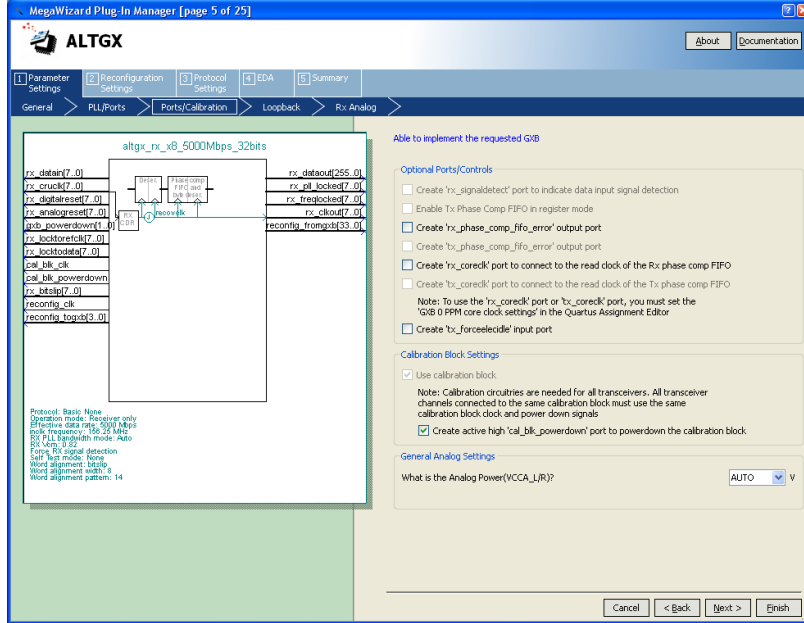
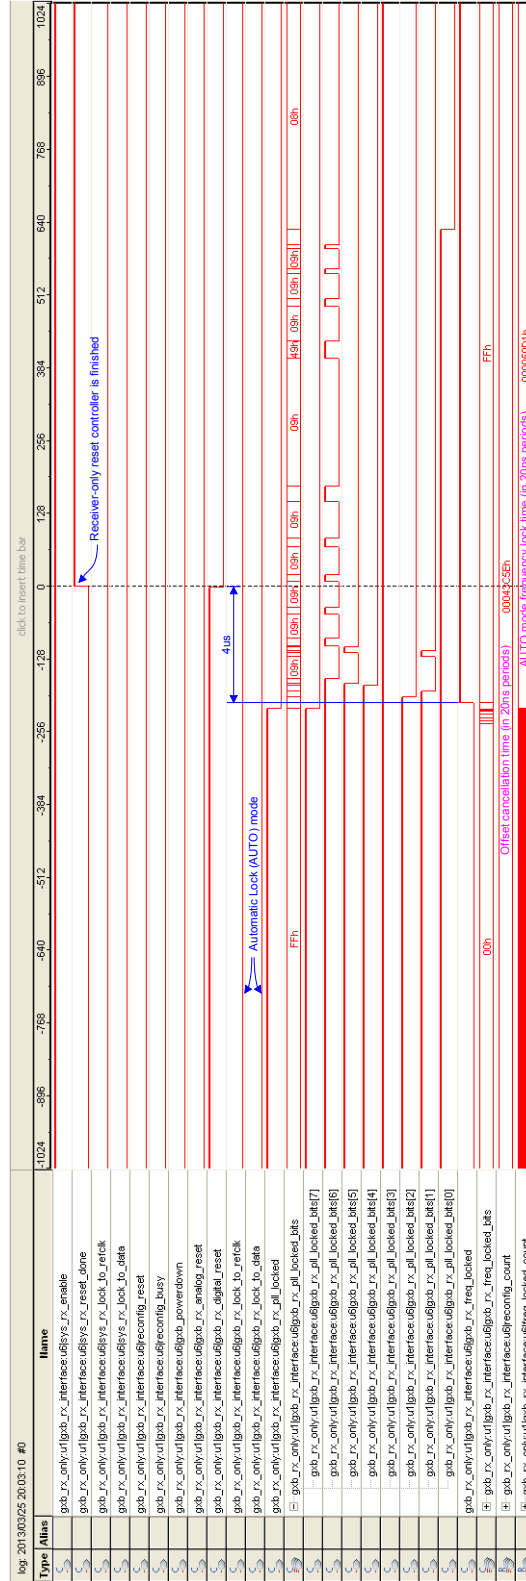

Figure 11: Receiver-only ALTGX page 5.
Figure 22: Altera Transceiver Receiver-only reset controller (AUTO mode) re-enable after power-on (end of reset sequence), with no input data transitions.
- Page 5 (see Figure 11)
Altera application note AN533: *Debugging Transceivers* indicates that PLL locked may toggle in lock-to-data mode (see p15 and 19 [1]), and that the frequency locked signal should deassert if the CDR loses lock-to-data. The LTD mode measurement in Figure 19, and the AUTO mode measurement in Figure 22, are inconsistent with these comments, in that the frequency locked signal remains asserted.
- Figure 22 shows the end of the AUTO reset sequence with the HSMC-to-SMA adapter removed, i.e., nothing attached to the receiver inputs. Note how the PLL locked signals toggle, however, the frequency locked signal remains asserted. This behavior is inconsistent with AN533's description of the operation of the frequency locked signal, and example in Figure 11 on p15 [1].